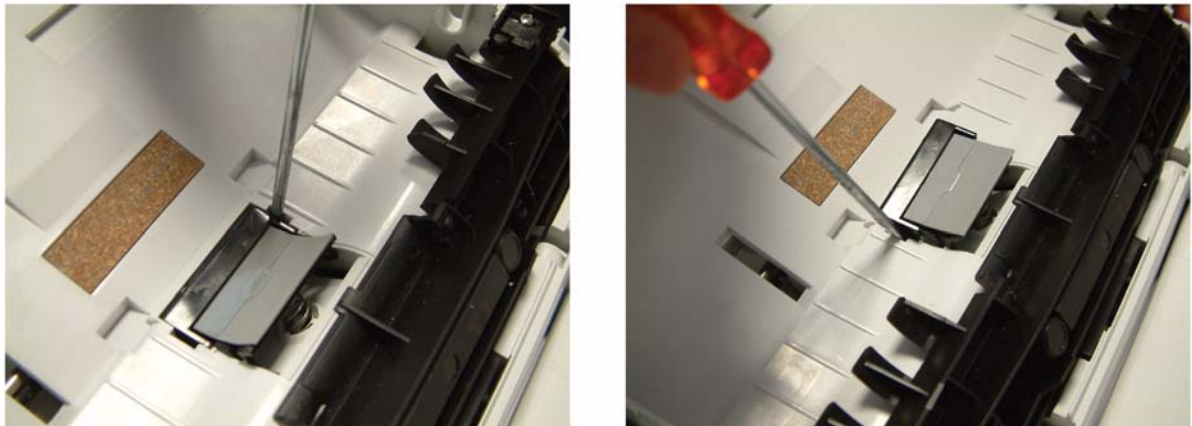

Figure 1
2. Repeat the previous step for the left slot of the retard pad, Figure 1.